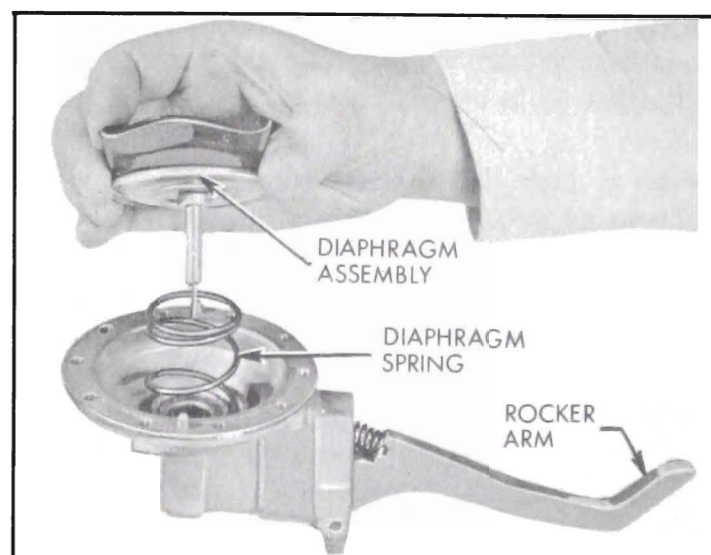

Figure 3-15—Diaphragm Assembly
1. If rocker arm and link were removed (subpar. b above), place new rocker arm spring and link in position in pump body with rocker arm and use a slightly undersize rod through pin hole to line them up. See figure 3-15. Drive new rocker arm pin through body, forcing line-up rod ahead of it. Install new steel washer over small end of rocker arm pin, support head of pin on a suitable steel block, and peen small end of pin to retain washer and pin in place.